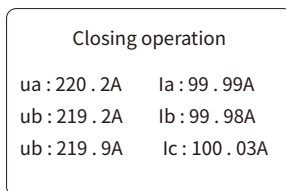
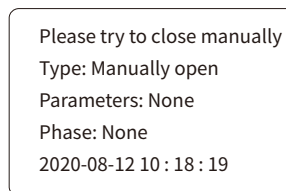

Figure 7
Figure 8
- (1) Protector operation display: During the normal operation of the protector, the protector operates for closing the gate as shown in Fig. 7. When the protector is in gate open status, the protector will display the current gate jump information and protector status as shown in Fig. 8. The information and status of the protector are shown in Fig. 8.